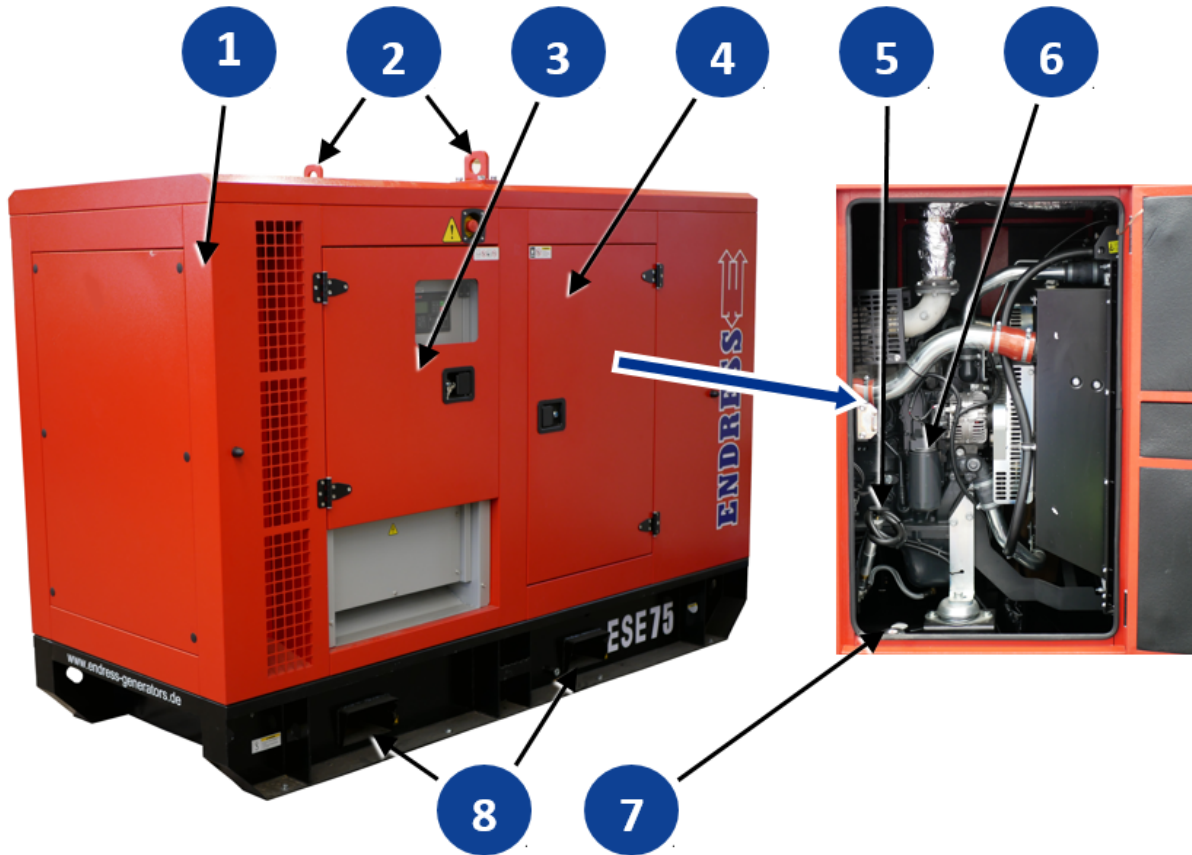

Fig. 6-2 Components on the exhaust and operating side
1. Unscrew the tank cover Fig. 6-2 .
4. Take note of the tank's fuel level indicator Fig. 6-2 as well as the fuel level at the filling opening to ensure that you do not overfill the tank.